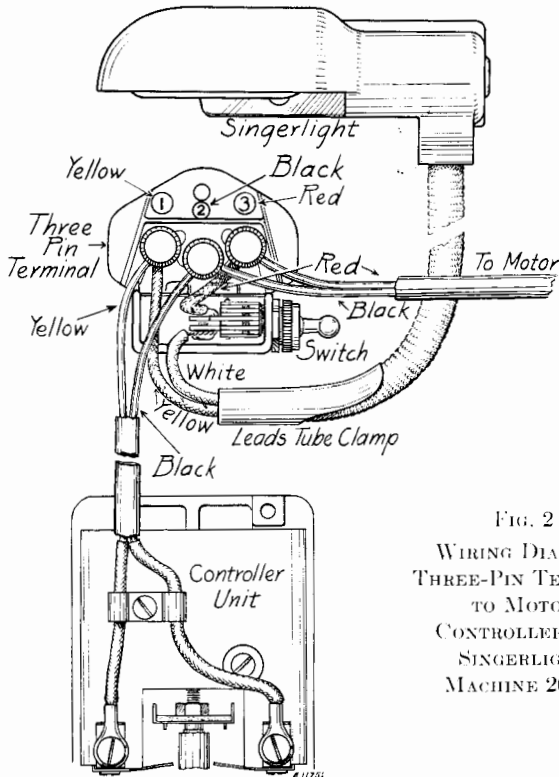

FIG. 2
(SEE FIG. 2, WIRING DIAGRAM)
**Motor Leads**—Fasten the lead with the **red** identification tubing to the **red** pin No. 3, and fasten the lead without identification tubing, to the middle pin No. 2, as illustrated in Fig. 2.